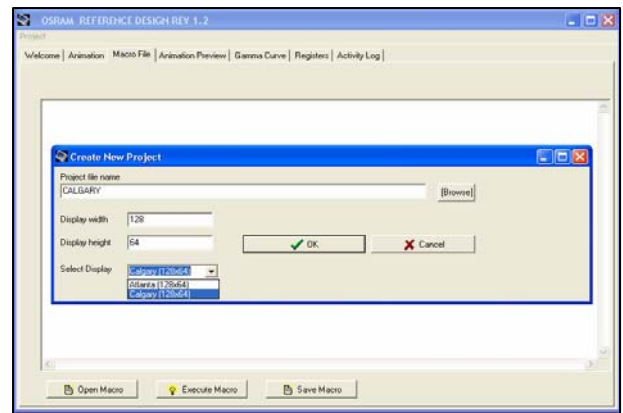

Figure 2b
- ii) Select Calgary (128x64) at the Select Display. Then click ok. The process is shown in Figure 2b.